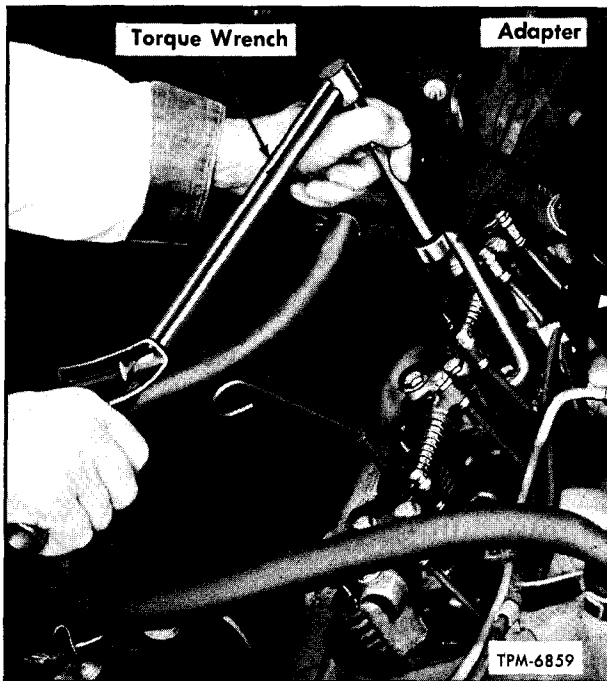
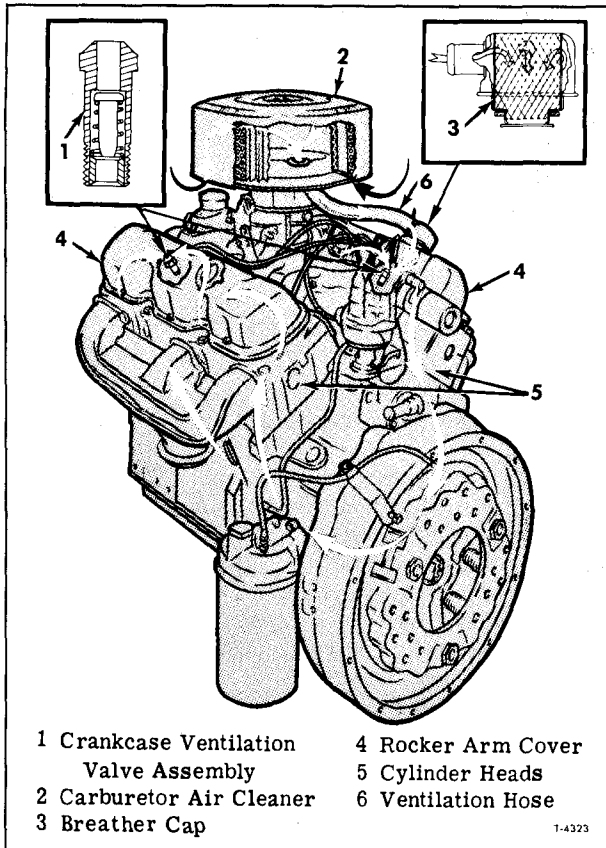

Figure 3—Use of Torque Wrench and Adapter to Tighten Cylinder Head Bolts
Figure 5—Schematic Arrangement of Crankcase Ventilation System Components
2. Referring to figure 3 use torque wrench to tighten cylinder head bolts in sequence shown in figure 5. Correct head bolt torque is 60 to 65 foot-pounds on V6 engines.
Figure 5 shows schematic arrangement of crankcase ventilation units for V6 engine.
6. Remove hose from breather cap on rocker arm cover and check for obstructions in hose (6, fig. 5). Remove breather cap (3, fig. 5). Inspect